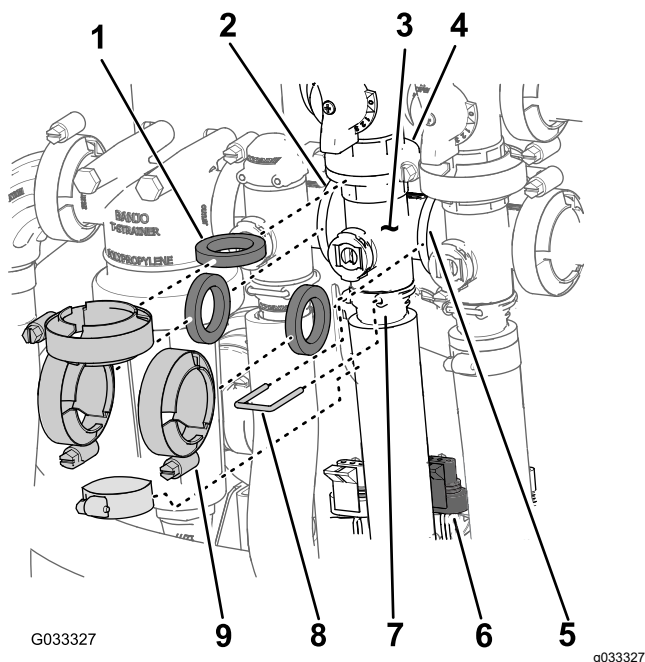

Figure 69
1. Remove the clamps and gaskets that secure the manifold for the agitation valve (Figure 69) to the agitation-bypass valve, rate-control valve, master-section valve, and adapter fitting (agitation-throttle valve).
2. Remove the retainer that secures the outlet fitting to the manifold for the agitation valve (Figure 69).